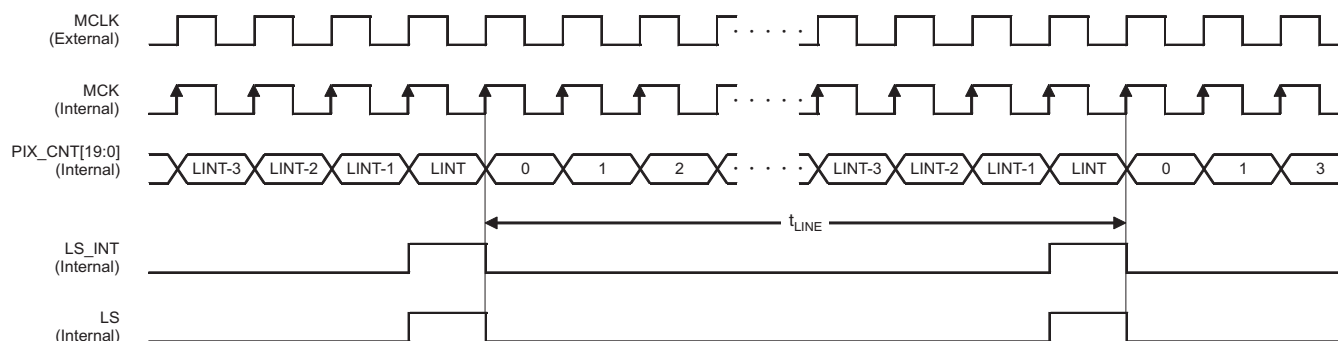
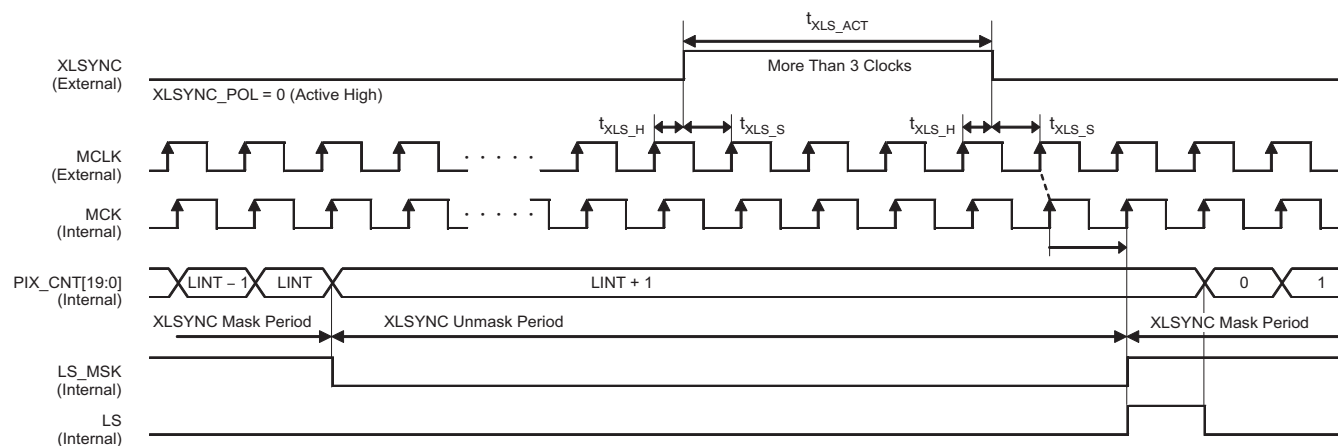

Figure 16. Internal Line Synchronous Mode (XLSYNC_SEL = 1)
Figure 17. External Line Synchronous Mode (XLSYNC_SEL = 0, default)
The VSP5610/11/12 have two modes for synchronizing the sensor line cycle: internal line (Figure 16) and external line synchronous mode (Figure 17). In internal line synchronous mode, the line cycle signal (LS) is generated after a certain number of MCLK cycles that are counted by an internal counter (PIX_CNT). The number of MCLK cycles is determined by the LINT[19:0] register; the counter clears after LS is generated. The active LS period is equal to one MCLK cycle period.
Table 9. Timing Requirements for Figure 16 and Figure 17